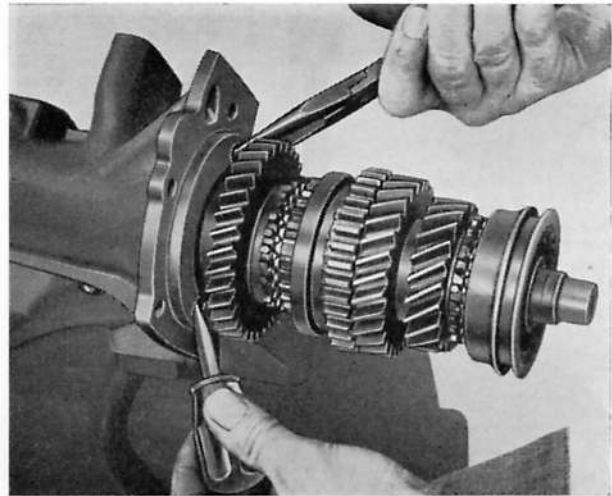

Fig. G.14. Removing the mainshaft bearing circlip from the rear cover
1. Remove the mainshaft bearing circlip from the rear cover (Fig. G.14) and press the mainshaft assembly out of the cover.